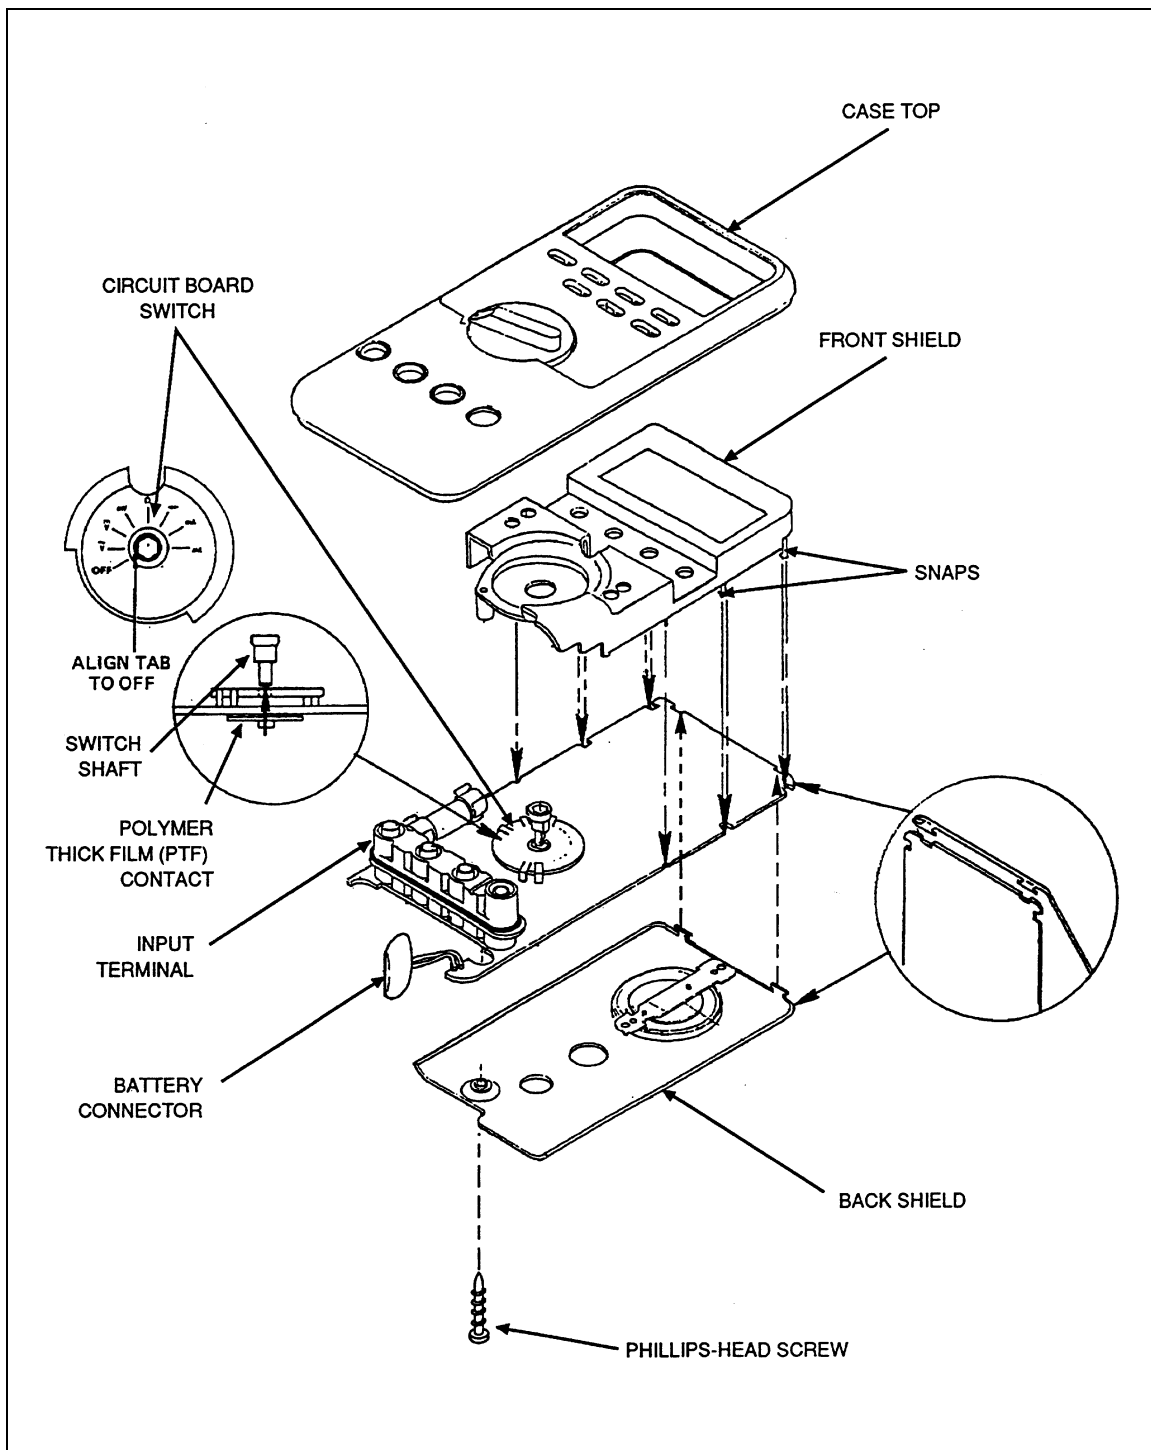

Figure 3-2. Assembly Details
1. Make sure that the Meter rotary switch and circuit board switch are in the OFF position (see Figure 3-2).
2. From the back of the circuit assembly, push the switch shaft in (see Figure 3-2), and remove the polymer thick-film (PTF) contact assembly.